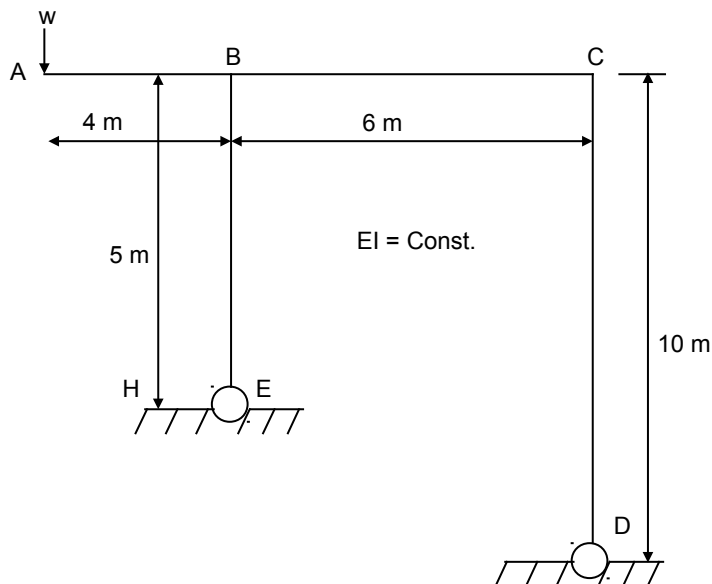

Figure 2
Q.2 (a) Figure 2 shows a frame hinged at base. Calculate the end reactions and draw the BM diagram. EI is constant.